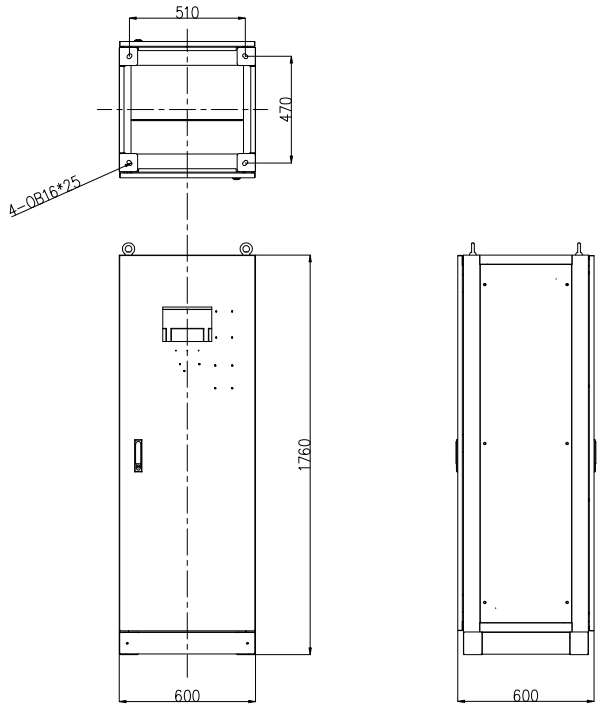

Figure-10 ATESS Batt-Master Cabinet9R-314
- 2). The installation position of the battery box is determined according to the position of the high voltage box. As shown in the figure-10, battery pack A is in the same column as the high voltage box, and battery pack B is in the remaining column.